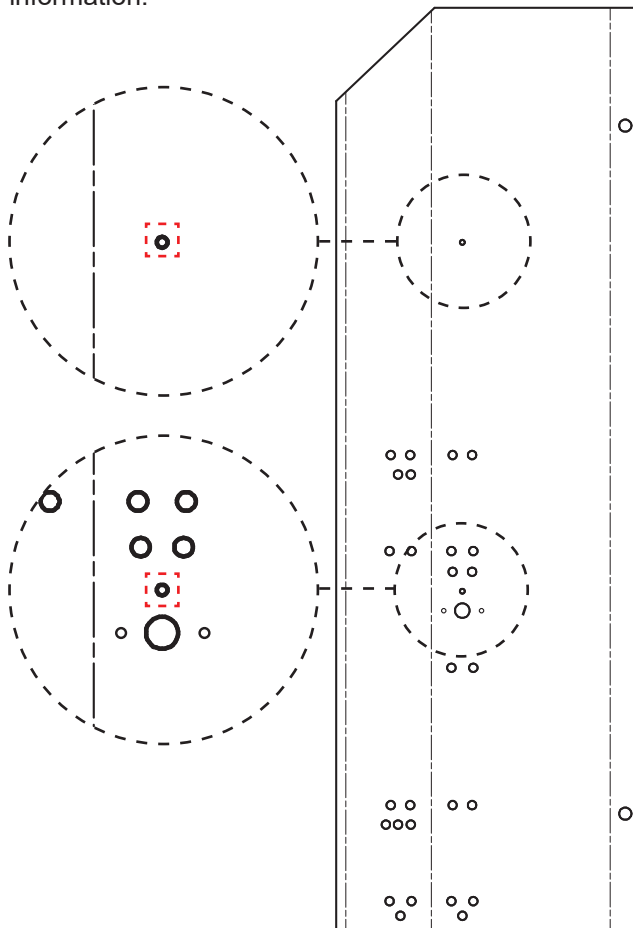
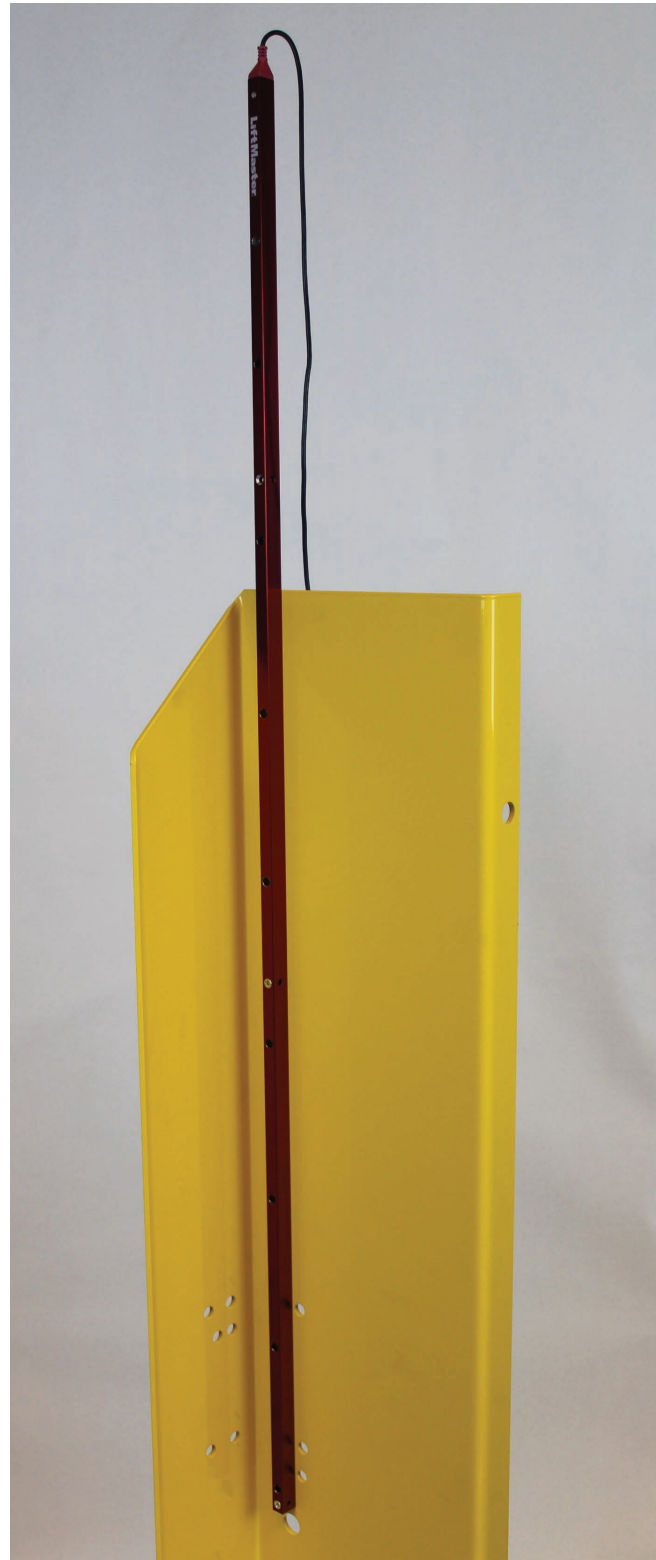

Figure 26
Figure 27
1. Using included screws and lock nuts, attach sensor/receiver and bracket to highlighted holes in Figure 26. See Figure 27 for example.